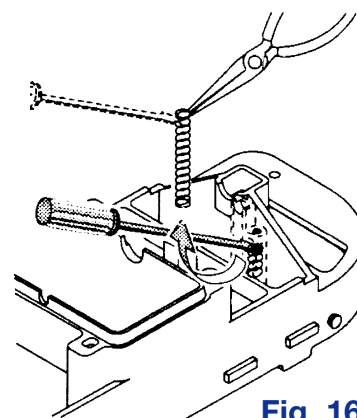

Fig. 16
7. With a small screwdriver (such as a jeweler's screwdriver), a pencil, or a pen point, depress and remove the coil spring from the movable brush mounting post (Figure 16). Replace the brush and the spring if necessary.